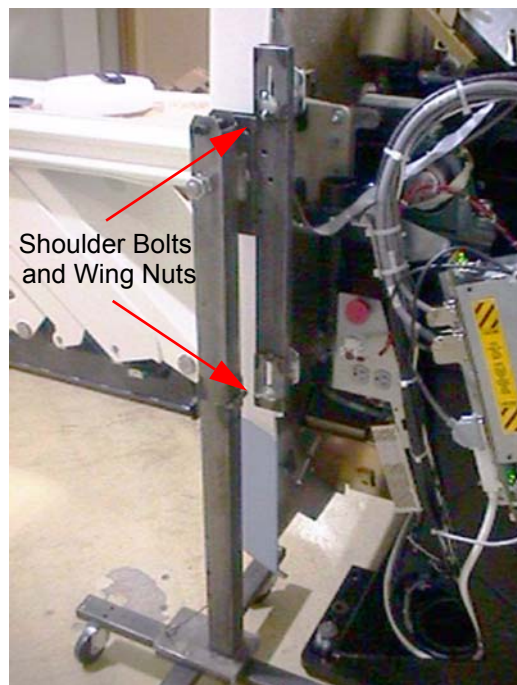

Figure A-8 Front Side Dolly
- 8.) Make sure that the three (3) power switches have been turned off.
- a.) Tighten the two (2) shoulder bolts to the gantry securely. This makes cover installation easier (see Figure A-8).